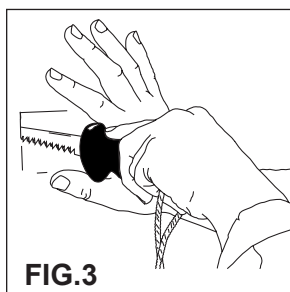

FIG.3
- ii.) Using a keyhole saw, cut wall board (See Fig. 3). Cutting to the outside of the line will produce a slightly over-sized opening. Mark and cut opposite side of the wall, exercising care to align both openings.